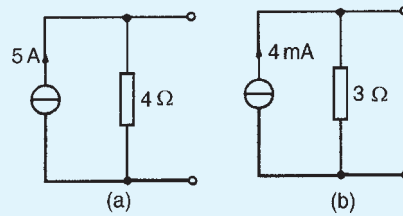

Figure 13.77
- Convert the networks shown in Fig. 13.77 to Thévenin equivalent circuits.